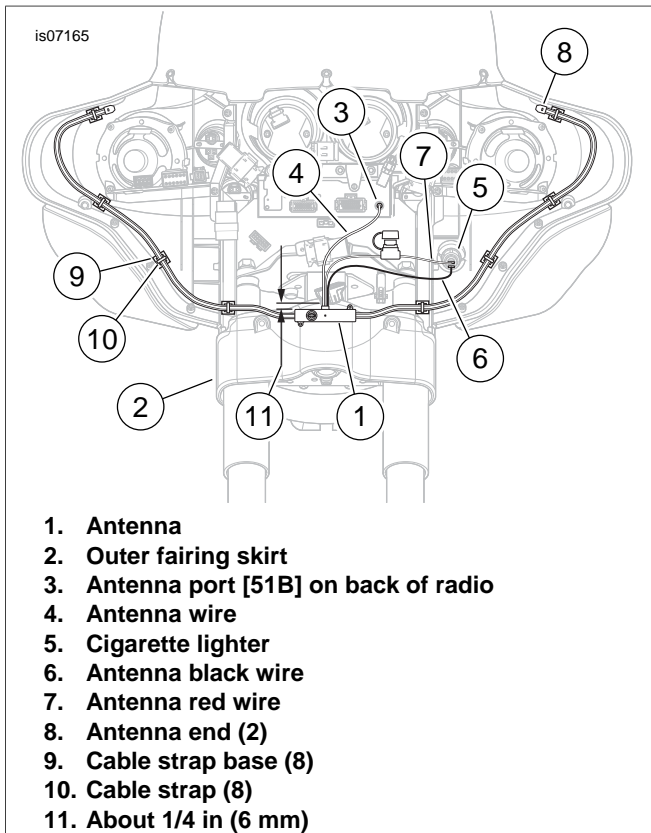

Figure 1. Antenna Element Routing (FLHT Models with Standard Headlamp)
2. See Figure 1. Position the curved mounting wedge of the antenna (1) against the front of the vehicle outer fairing skirt (2), about 1/4 in (6 mm) below the black plastic trim strip, with the power and ground leads **facing up**.
6. See Figure 1, Figure 2 or Figure 3. Unplug the original equipment (OE) antenna connector [51A] from the antenna port [51B] (3) on the back of the radio. Secure the antenna cable out of the way inside the fairing.
7. Route the antenna wire (4) and connector on the **new** antenna to the radio, and plug the connector into the antenna port.
9. Route the antenna element (C) on one side of the inner fairing as shown in Figure 1, Figure 2 or Figure 3.
10. Secure the antenna element with cable strap bases (9) and cable straps (10) from the kit as follows:
- b. Remove the liner from the adhesive backing of the antenna end (8). Position the end to the inner fairing, and press firmly into place.
13. **For FLHX and FLTRX Models:** Remove the grommet from the antenna clearance hole in the fascia. Install the hole plug (12) from the kit.